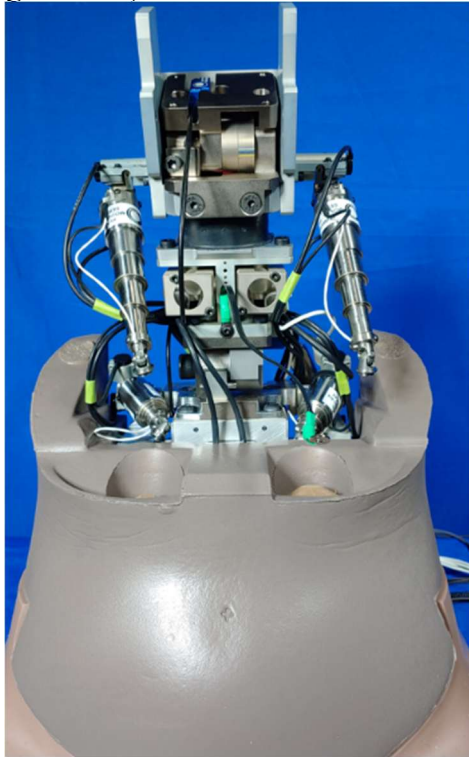

Figure 5-57. Insert the Abdomen Foam (474-4305)
- 5.3.22 Insert the Abdomen Foam (474-4305) into the THOR-05F abdominal region (Figure 5-57).